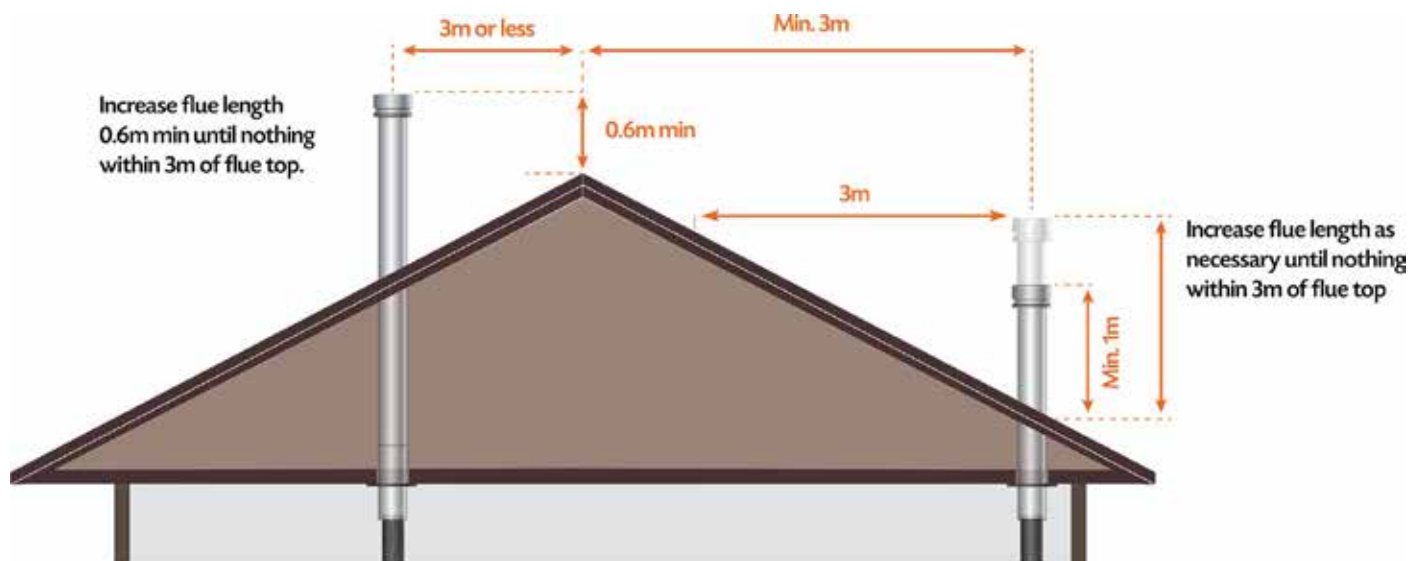

FIGURE 1
7. Add the remaining casings to the required height. Australian/New Zealand Standards state that “the flue pipe shall extend not less than 4.6m above the top of the floor protector”. If the flue pipe is within 3 metres of the ridge, the flue pipe must protrude at least 600mm above the ridge of the roof. If the distance from the ridge is more than 3 metres, the flue pipe must protrude at least 1000mm above roof penetration. Additional lengths of casing and flue may be required to achieve this. The flue pipe must be more than 6 metres from any nearby structure. Other clearances may be applicable, it is up to the installer to ensure compliance with all regulations. See Figure 1 and 2 on P9.